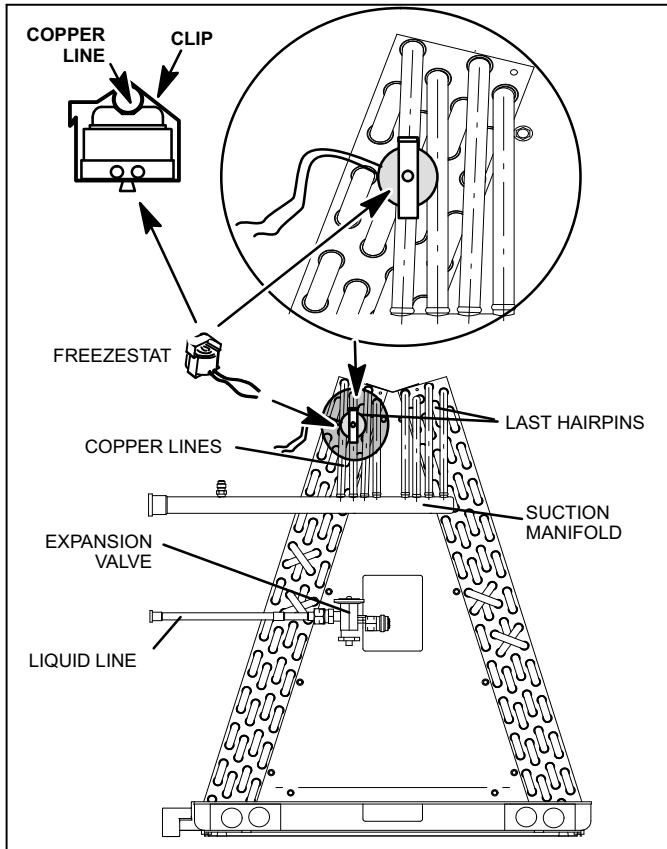

Figure 4. Typical Freezestat (S49) Installation (Indoor Coil)
1. - A freezestat, sized per table 1 and ordered separately, must be installed. Install the freezestat on one of the copper lines between the last hairpins and the suction manifold (see figure 4).